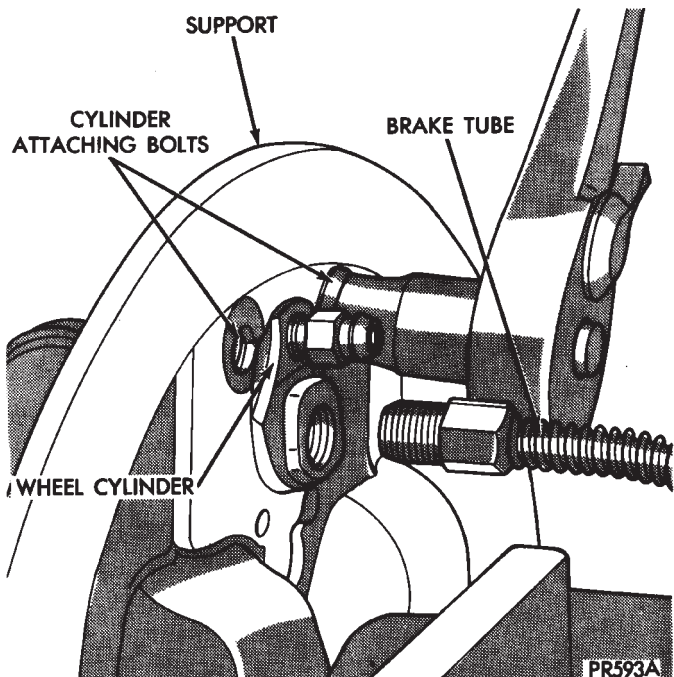
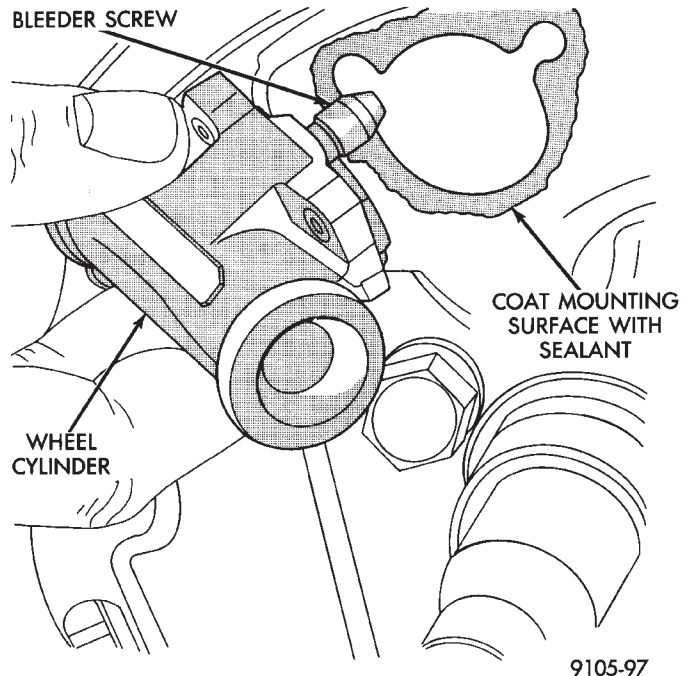

Fig. 1 Brake Tube Disconnected
Fig. 2 Remove or Install Wheel Cylinder
- (1) In case of a leak, remove brake shoes, (replace if soaked with grease or brake fluid.)
- (2) Disconnect brake tube from wheel cylinder (Fig. 1).
- (3) Remove the rear wheel cylinder attaching bolts (Fig. 1). Then pull wheel cylinder assembly off the brake support plate (Fig. 2).